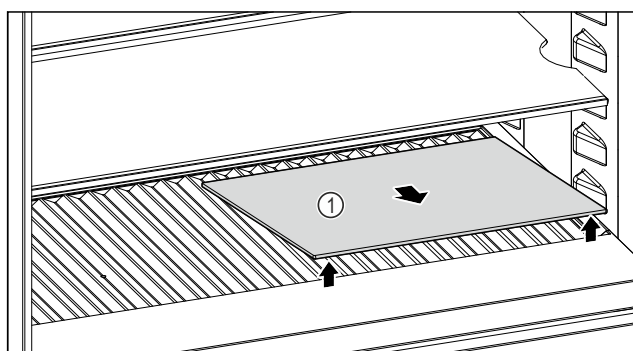

Fig. 206
- Lift the glass shelf Fig. 206 (1) at the front and remove.
- Store the glass shelf Fig. 206 (1) in a safe place outside the appliance.